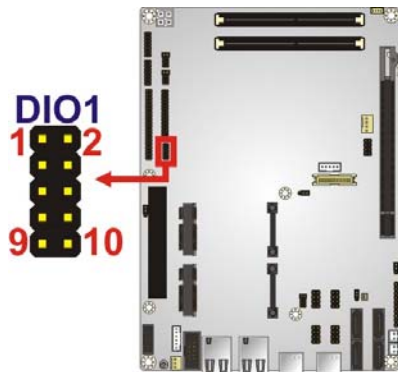

Figure 3-4: Digital I/O Connector Locations
- CN Location:** See **Figure 3-4**